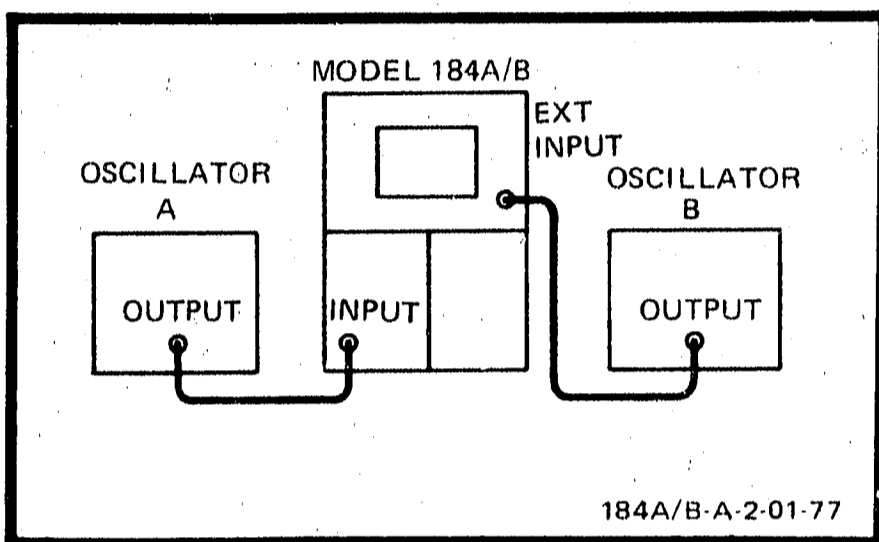

Figure 5-11. Write-in-store Adjustment
b. Connect oscillator A 50-kHz sine wave output to vertical amplifier input (figure 5-11).